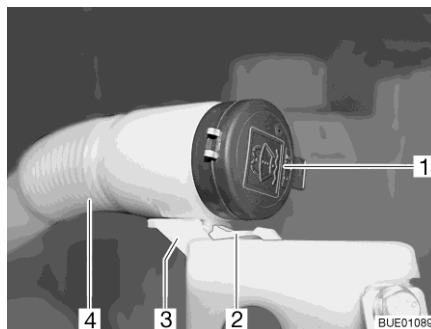

Fig. 44 Washer fluid container filler neck
- Push the handle (Fig. 44,2) down and keep it pressed.
- Pull the flexible hose (Fig. 44,4) to the front and out of the holder (Fig. 44,3).
- Remove the lid (Fig. 44,1) from the filler neck of the washer fluid container.